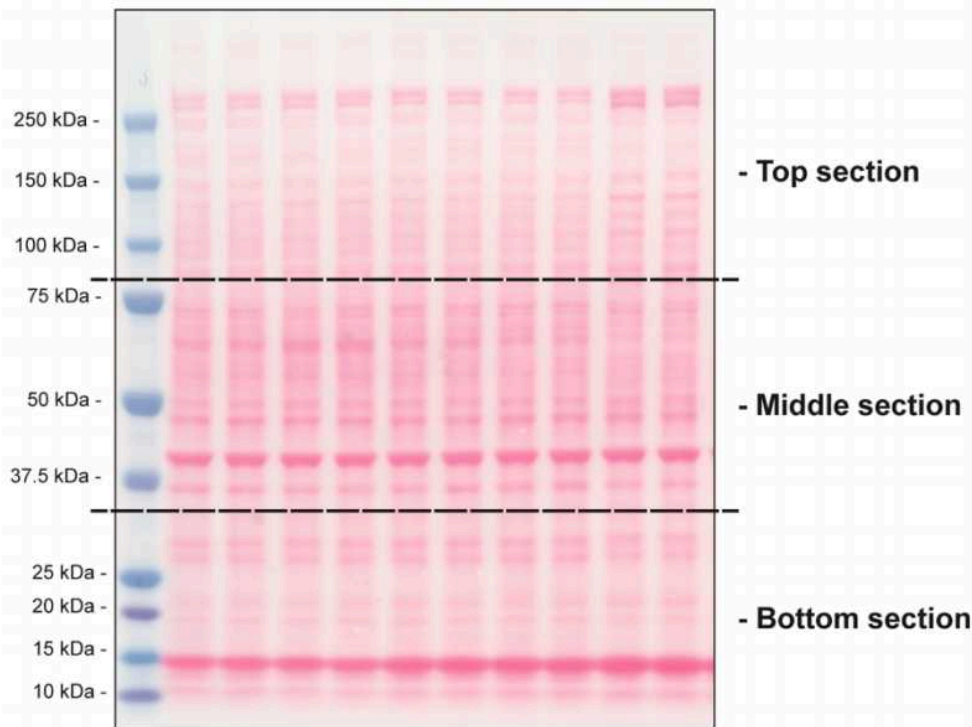

Figure 1: After protein transfer, each membrane can be divided into three sections as shown here:
3. 'bottom section' (from the 37.5 kDa marker to the bottom of the membrane) (Figure 1), to be incubated with primary antibodies as described in Step 23.